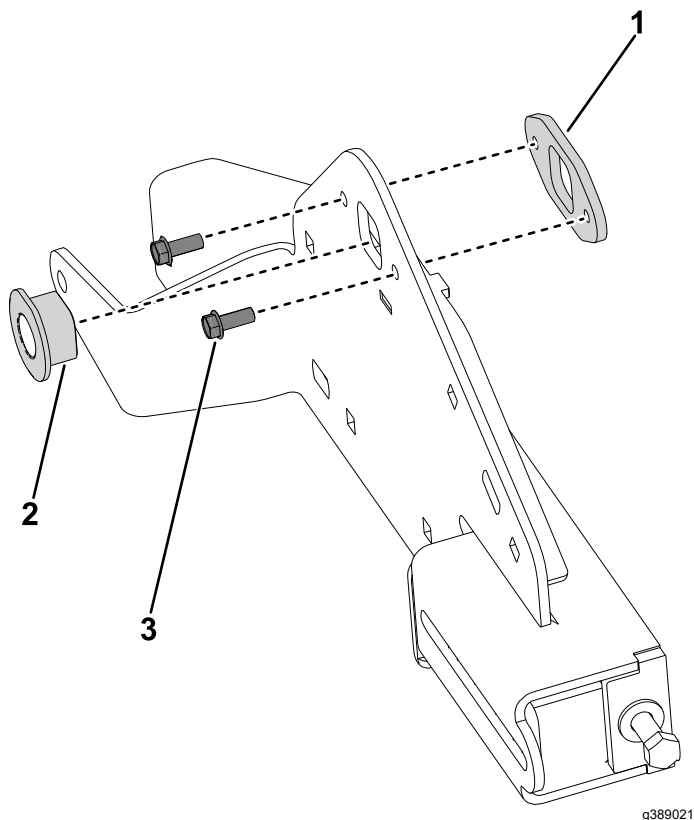

Figure 28
2. Install the axle bushing into the track support (Figure 28).
3. Install the axle bushing support to the track support, secure with the 2 screws (1/4 x 5/8 inch) (Figure 28).